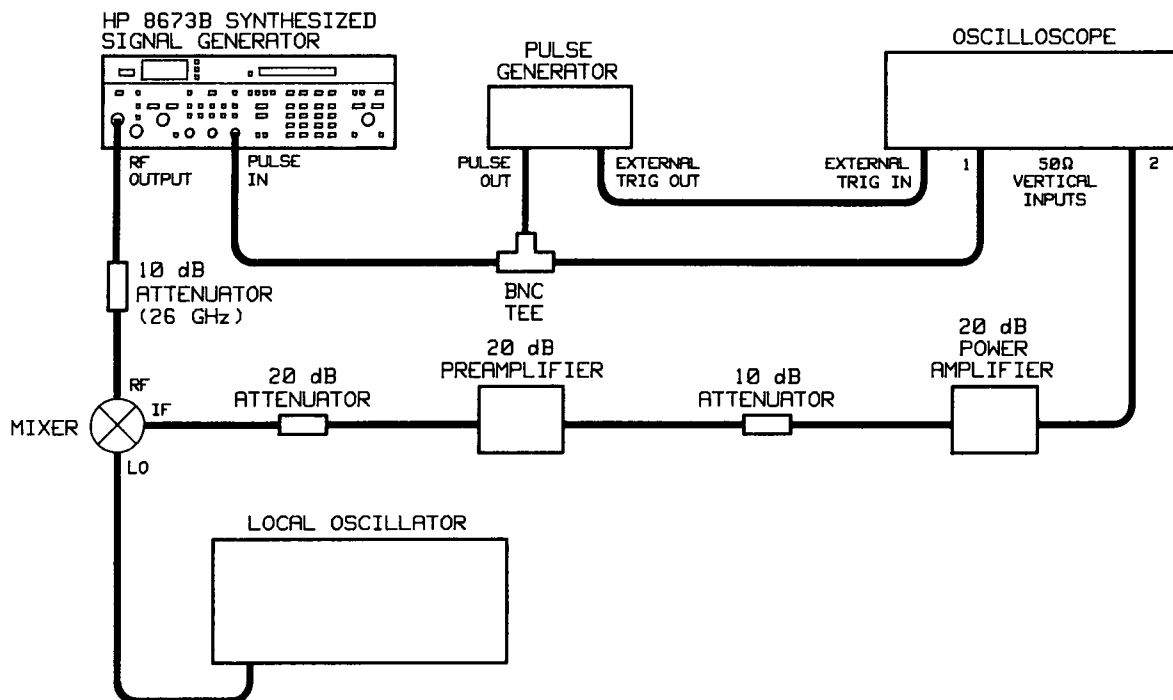

Figure 4-5. Rise Time, Overshoot and Ringing Test Setup
6. Connect equipment as shown in Figure 4-5.